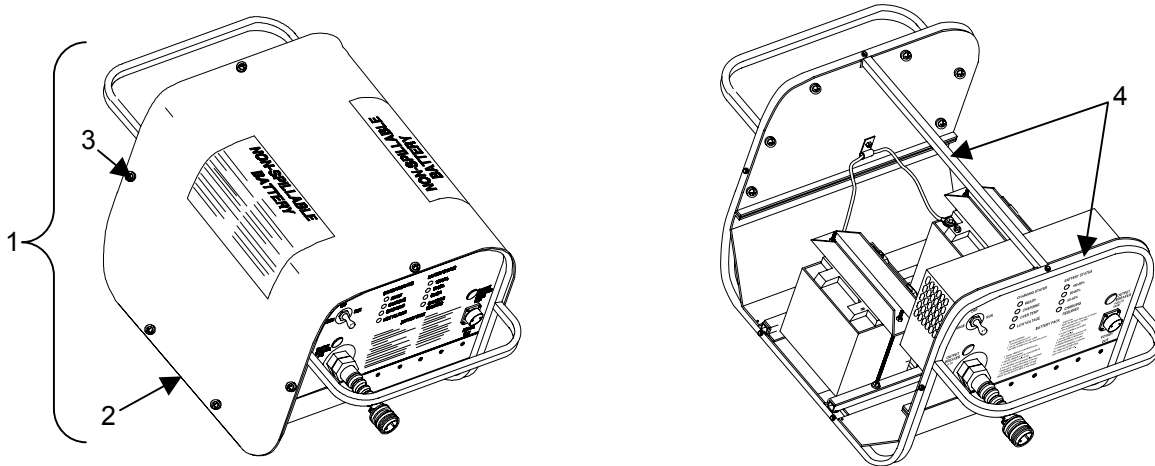

Figure 1. Inspect the Battery Pack
1. Remove the Battery Pack (**figure 1, item 1**) outer cover (**figure 1, item 2**) by removing the cover retaining screws (**figure 1, item 3**) with a cross tip screwdriver.
2. Inspect the Battery Pack (**figure 1, item 1**) for broken or loose welds on the frame (**figure 1, item 4**). Refer to Direct Support Maintenance for repair.
3. Install the outer cover (**figure 1, item 2**) and retain with the cover retaining screws (**figure 1, item 3**).